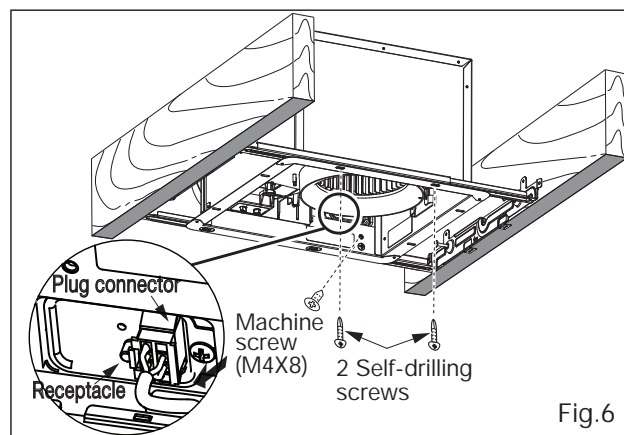

Fig.6
8. Insert fan body and slide into adaptor assy with some strength, untill the flange overlaps the Flex-Z Fast™ bracket. Secure the fan body to Flex-Z Fast™ bracket by using 2 self-drilling screws, plug connector to receptacle and secure the fan body to adaptor by using machine screw (M4X8). (Fig.6)